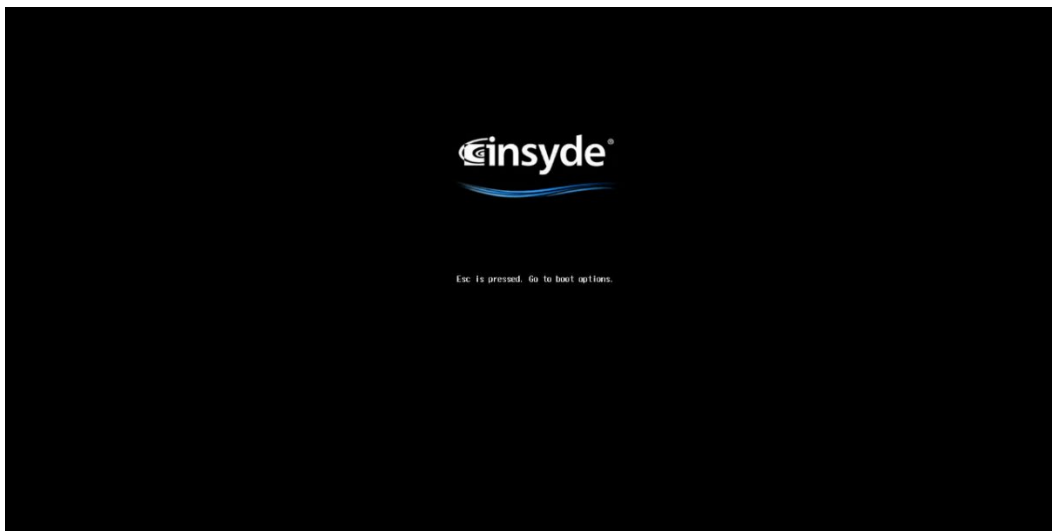

Figure 13: Insyde® Escape Screen
1. When the Insyde® splash screen is displayed, hit the ESC button. The message “ESC is pressed. Go to boot options,” will be displayed (Figure 13).